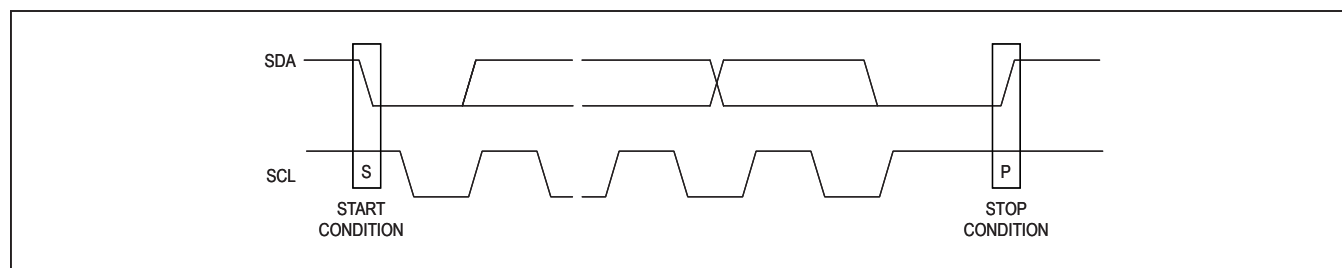
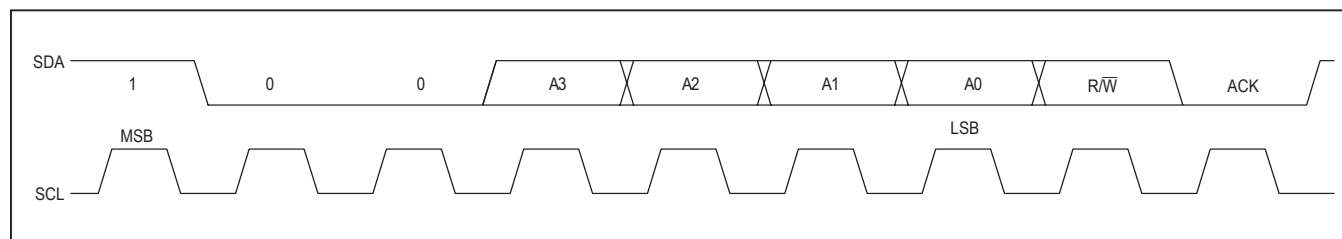

Figure 3. Standard Stop Conditions
Figure 6. Slave Address
Each transmission consists of a START condition (Figure 3) sent by a master, followed by the MAX6956 7-bit slave address plus R/W bit (Figure 6), a register address byte, one or more data bytes, and finally a STOP condition (Figure 3).
finished communicating with the slave, it issues a STOP (P) condition by transitioning SDA from low to high while SCL is high. The bus is then free for another transmission (Figure 3).
The MAX6956 has a 7-bit-long slave address (Figure 6). The eighth bit following the 7-bit slave address is the $R/\overline{W}$ bit. It is low for a write command, high for a read command.